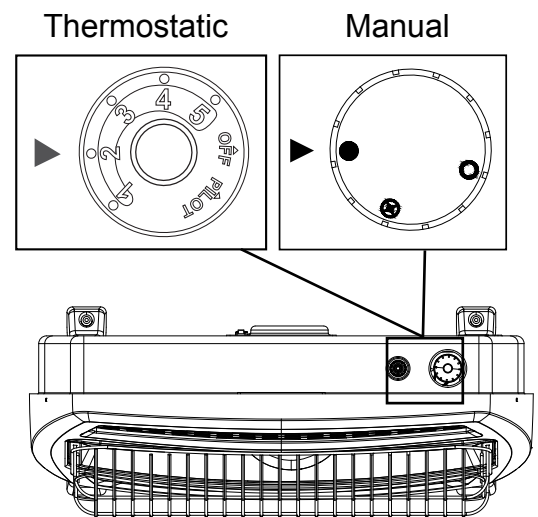

Fig. 25 - Control Knob Position
The thermostat used on this heater senses the room temperature. At times the room may exceed the set temperature. If so, the burner will shut off. The burner will cycle back on when room temperature drops below the set temperature. The control knob can be set to any comfort level between "HIGH" (5) and "LOW" (1) (See Fig. 25).
Manual valves remain burning in the HIGH "●" setting until manually turned to OFF "○" (See Fig. 25).